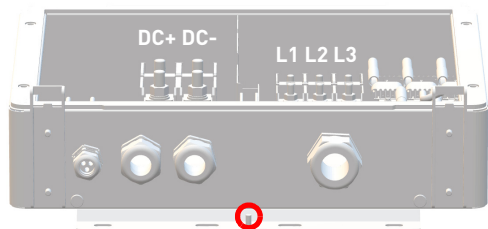

Fig. 9: Potential equalization
3. Connect the protective earth conductor (PE) (see Fig. 3) and the conductor for potential equalization (see Fig. 9).